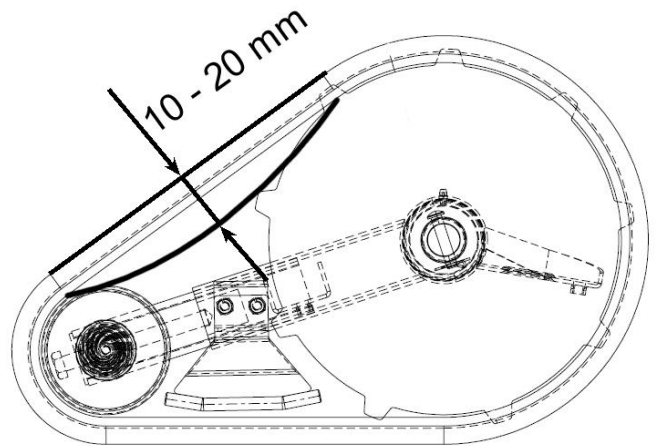

Figure 27
3. Turn the screw clockwise to increase the crawler tension and counter clockwise to decrease. The free play of the belt should be between 10 to 20 mm (Figure 27).